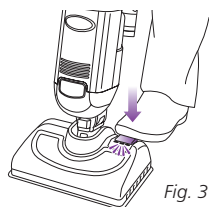

Fig. 31
- 2 Tap the foot pedal until the unit returns to standby mode. The LED lights should be blinking blue in a chasing manner. (Fig. 31)